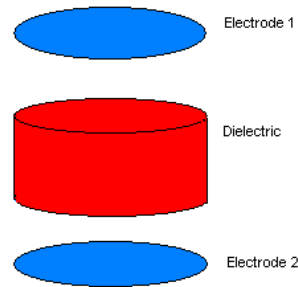

Figure 1 Basic Capacitor Construction
Capacitors, in the simplest form, consist of two parallel plates of conductor separated by a dielectric. See figure 1. In the simple case the dielectric may be air or vacuum. If we replace the air dielectric in this capacitor with almost any other non-conductor, the capacity of the capacitor increases. This is because the molecular lattice of the insulator allows more energy to be stored in the capacitor at any given voltage. This property of the dielectric material is called its dielectric constant and it is a unit less ratio greater than one (air being one). If we replace a dielectric with a second dielectric that has twice the value of dielectric constant of the first, the value of the capacity doubles. So, the larger the dielectric constant we can use the smaller the physical size we can make the capacitor for any given capacitance value. The search has always been for insulators with greater dielectric constants. That is only half the problem. All insulators have a second property. This is dielectric strength. This is the ability of the dielectric to withstand high voltage per unit of thickness. It is usually measured in Kilovolts per cm. A higher dielectric strength means that the dielectric layer may be thinner for a given working voltage. This allows a higher value of capacity for a given size of capacitor package at a given voltage. (This is starting to get complicated.) Another issue to consider is the behavior of the dielectric with temperature. If the dielectric changes physical size, dielectric constant, or both with temperature change, then the capacity of the capacitor will also change with temperature. This may not be a big issue in some applications. If the power supply filter capacitor is big enough at all temperatures, then the fact that it changes value twenty-five or more percent is probably not an issue. On the other hand, if the capacitor, that tunes an oscillator, changes one percent over the expected temperature range you probably will not be pleased with the results. This variation in capacity with temperature is the capacitors temperature coefficient (TC). It is measured in Parts per Million per degree Centigrade. Some caps are as low as +/- 30 PPM/Deg C. Aluminum electrolytic capacitors (to be discussed later) are as high as +2500 PPM/Deg C. One more area to consider when choosing a capacitor is the loss